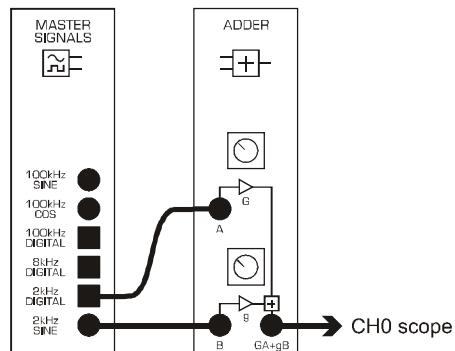

Figure 11: "adjust\_the\_ADDER" wiring diagram
1. Use patching cords to wire up DATEx blocks according to the wiring diagram in Figure 11.
The **AMPLIFIER** block on DATEx has one input and one output. This input has variable **GAIN**. Hence the parameter available for programmatic control is the input **GAIN**. This is known as "k". Figure 11 shows the **AMPLIFIER** block as a hardware block and its corresponding low-level VI block.